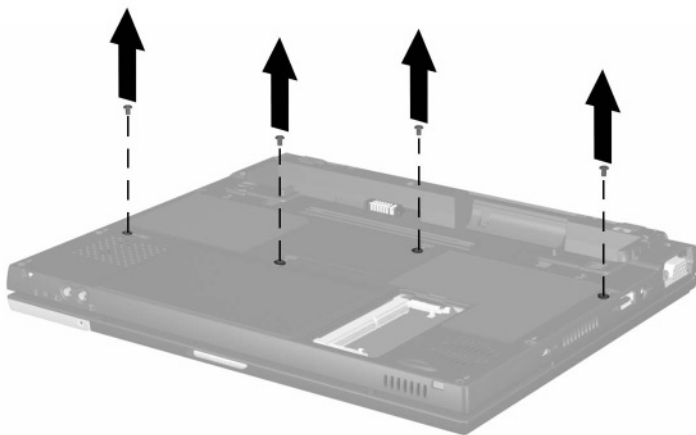

Figure 5-17. Removing the Keyboard Screws
3. Remove the four TM2.0 × 6.0 screws that secure the keyboard to the base enclosure (Figure 5-17).